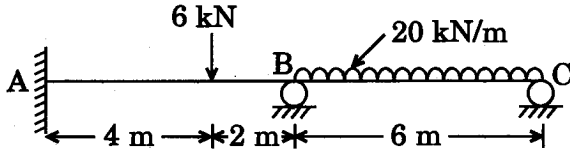

Figure 4
5. Determine the reaction components in the continuous beam ABC as shown in Figure 4. Flexural rigidity is constant throughout. 14